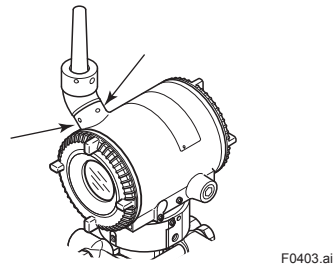

Figure 4.3 Mounting Screw Position
- 1) Loosen the two mounting screws at the bottom of the antenna by using a 2.5 mm Allen wrench (see Figure 4.3). The screws might come off and be lost if loosened too much; loosen the screws by about three rotations.